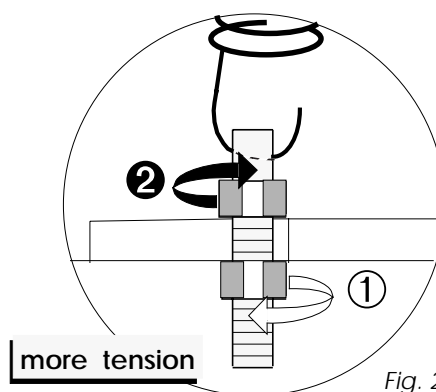

Fig. 28a
- 4a **to increase spring tension:** observe the illustration ① and ② in Fig.28a.